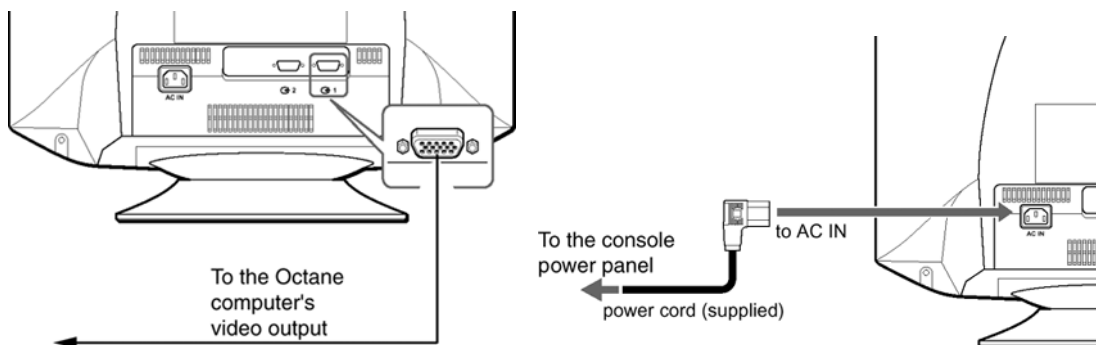

Figure 2-11 Monitor Connections (Sony Model GMD-F520 -- GE #2333243)
- 2.) Connect the video signal cable to the monitor's video input (see Figure 2-11) and to the computer's video output.